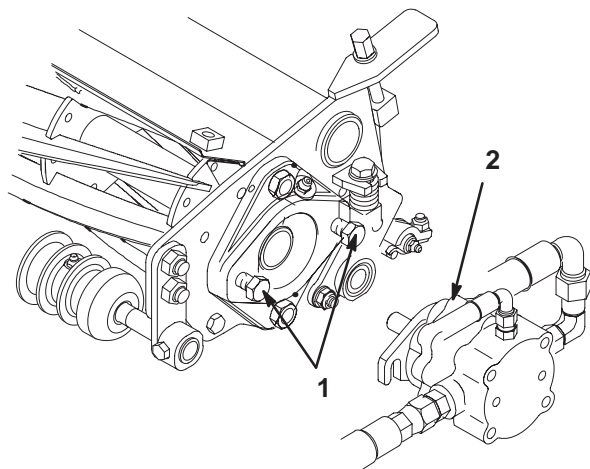

Figure 14
9. Assemble the mounting screws for the reel drive motor to each cutting unit. Leave approximately 1/2 in. (13 mm) of the threads exposed on each mounting screw (Fig. 14).
11. Coat the spline shaft of the motor with clean grease and install the motor by rotating the motor clockwise so the motor flanges clear the studs. Rotate the motor counterclockwise until the flanges are encircling the studs and tighten the mounting capscrews (Fig. 14).